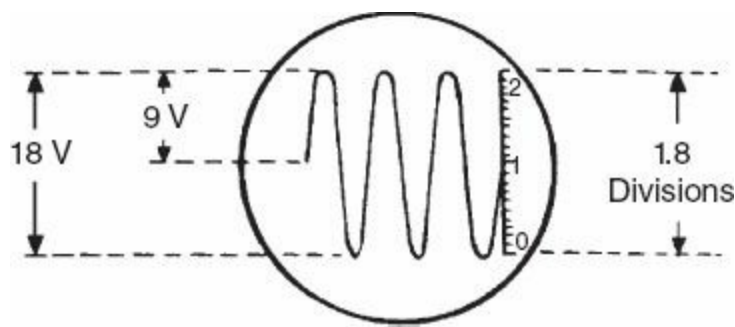

FIGURE 2.4 A calibrated display of an oscilloscope.
7. Because 6.3 V root mean square (rms) equals 9 V peak voltage or 18 V peak to peak, it should be adjusted to display 1.8 divisions on the cathode-ray tube (CRT) screen (Fig. 2.4).